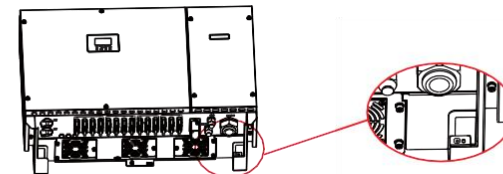

Figure 5.3 Securing the PGND cable
Step 3 Remove the ground screws from the ground points, secure the PGND cable (done by step 1 & 2) using the ground bolts, and tighten the bolts to a torque of 5 N·m using a socket wrench, as shown in Figure 5.3. PE wire must be well grounded to ensure that impedance between Neutral wire and Earth wire be less than 10Ω.